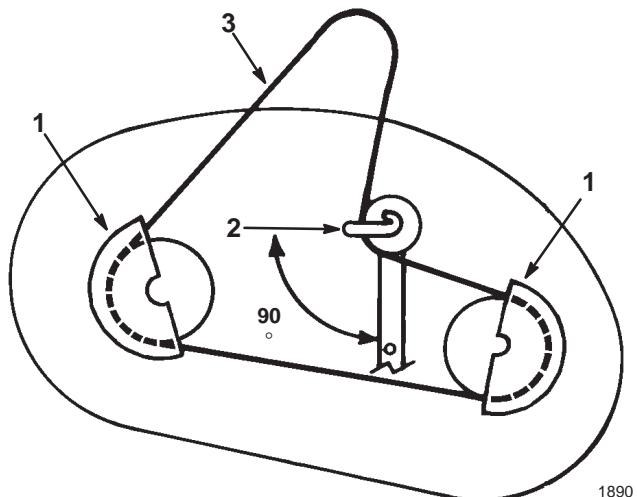

Figure 47
2. Remove the pulley cover mounting screws and pulley covers from both blade pulleys (Fig. 47).
3. Loosen, but do not remove, the bolt and nut securing the idler pulley and belt guide (Fig. 47).
2. Position the idler pulley belt guide so it points toward the left, 90° to the idler arm (Fig. 47). Tighten the mounting bolt and locknut securing the idler pulley and belt guide.
3. Install the left and right pulley covers with the mounting screws (Fig. 47).